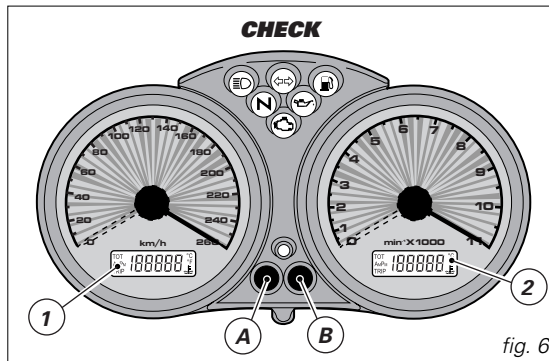

fig. 6
Turn the key to **ON** and press (B) (fig. 6) to display trip meter and odometer alternatively.
Keep (B) pressed (fig. 6) for more than 2 seconds. When the **TRIP** function is enabled (trip meter), display (LCD 1) will reset.
Turn the key to **ON** and press (A) (fig. 6) to display clock and oil temperature.
Turn the key to **ON** and press (B) (fig. 6) within 5 seconds to change instrument panel lighting power.